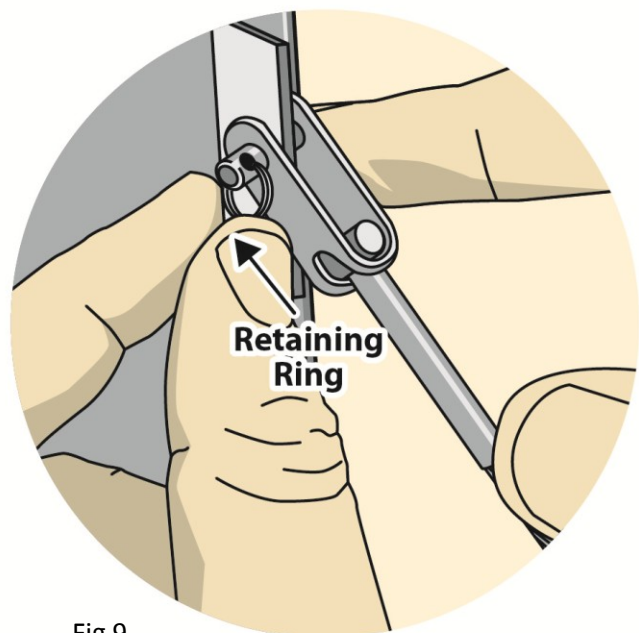

Fig 9
- Insert Pin and replace Retaining Ring (Fig. 9)